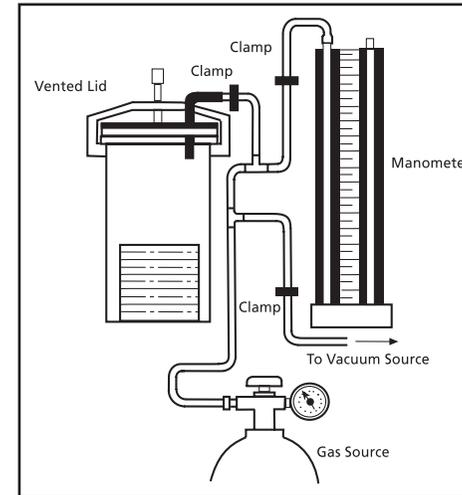

Figure 2
4. Attach a short rubber tube on the vent of the BD BBL GasPak 100 lid or the BD BBL GasPak 150 jar to multiple stopcock or plug (Fig. 2). Outlets are needed for a manometer, gas source (hydrogen, nitrogen, methane, carbon dioxide, or a mixture of hydrogen plus carbon dioxide), and a vacuum source.